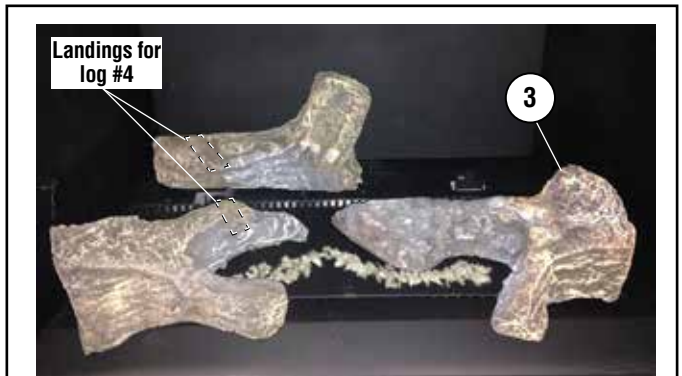

Figure 17 - Place log 3
6. Position the left cross log (4) on the landings on the left rear log (1) and the left front log (2) (**see Figures 17 and 18**).